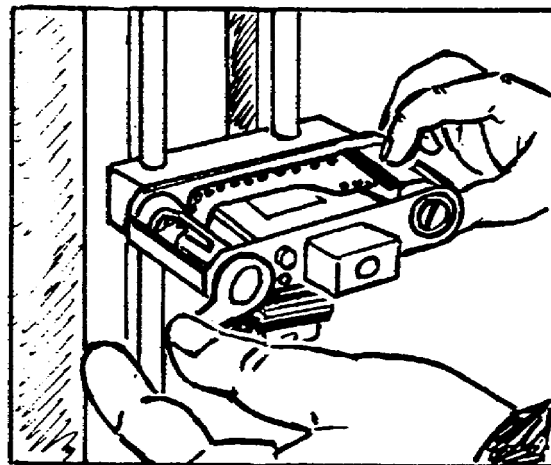

Figure 1-20. Turn Film Advance Lever.
g. Once the film tab is inserted into the film take-up spool, and to visually insure proper film advance, turn the film advance lever to the right while holding the film cassette down with your right hand, (fig 1-20); this will insure proper tension on the film. Visually check the film advance during lever movement.